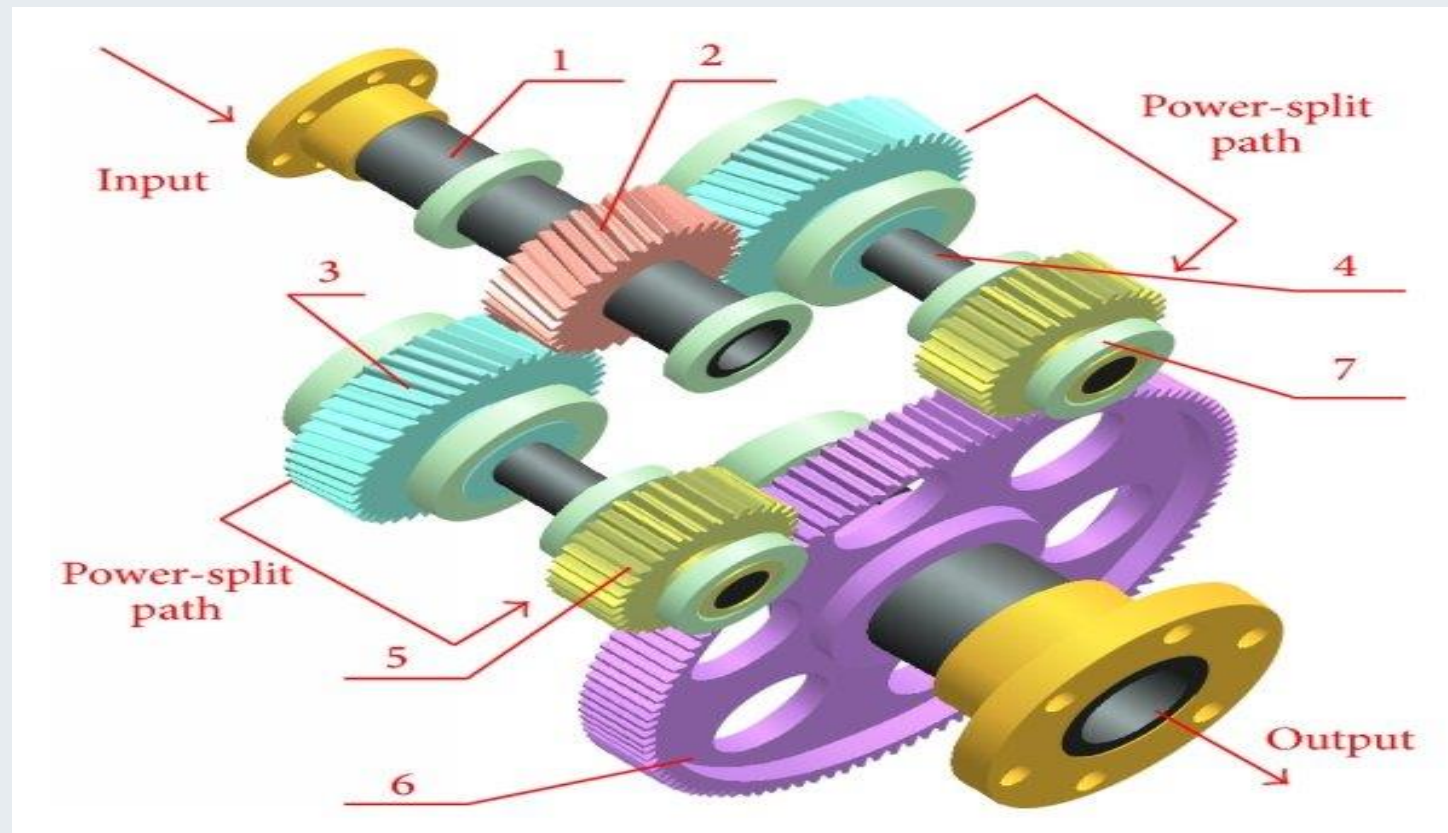

Figure 2. Two shaft split-gearbox for WECs. Source: [www.researchgate.net](http://www.researchgate.net)
- Another way to achieve the two-speed operation is to use a split gearbox, which **has two shafts as presented in Fig.2[3]**.